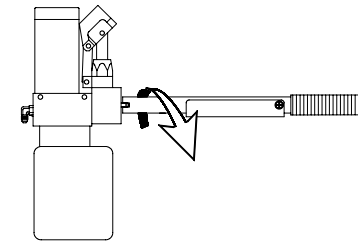

FIGURE 2-13: COUNTER-CLOCKWISE LOWERS PLATFORM
- 2) Refer to **Figure 2-13**. Engage pump release valve with handle. Slowly rotate valve counter-clockwise (1/4-turn max) until platform begins to lower; do not open further. Allow platform to settle on the ground, and then rotate valve clockwise to close.